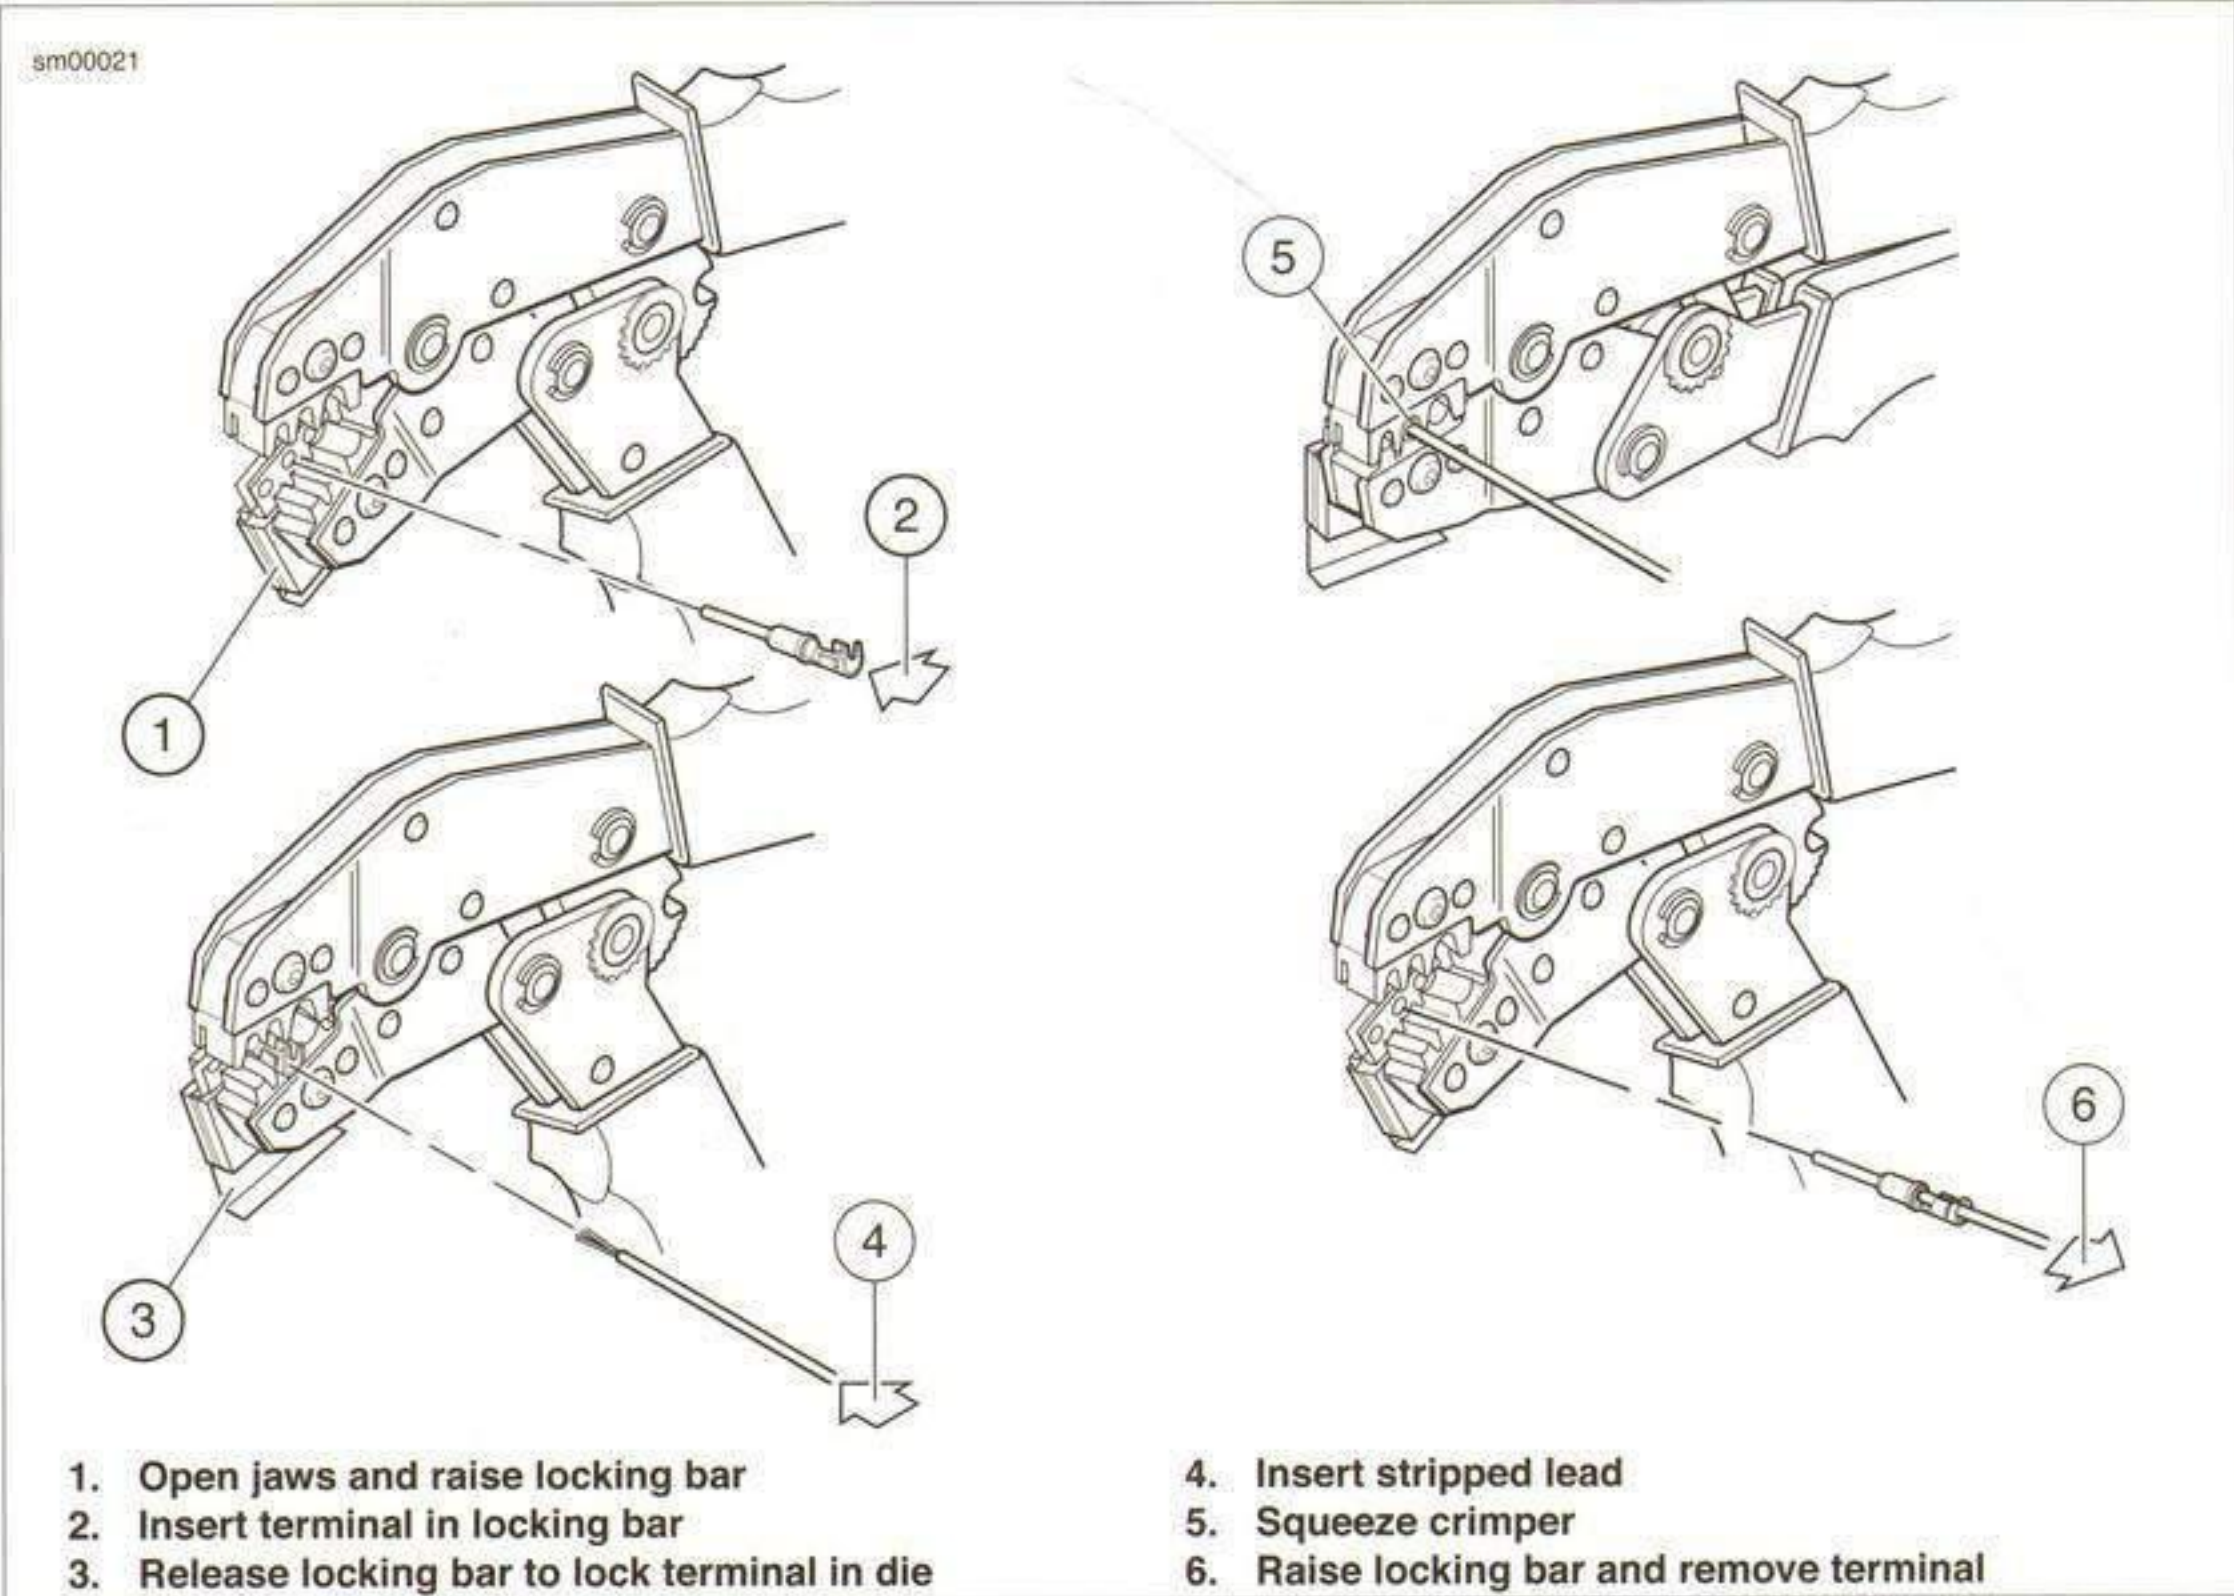

Figure A-21. Crimping a Deutsch Standard Terminal
- 1. See Figure A-21. Squeeze the handles of the DEUTSCH TERMINAL CRIMP TOOL (Part No. HD-39965-A) to open the jaws. Push the locking bar (1) up.
- 2. Insert (2) terminal (socket/pin) through hole of the locking bar, so that the rounded side of the contact barrel rests in the nest (concave split level area) with the crimp tails facing upward. To match the wire gauge to the crimp tool die, refer to Table A-3.